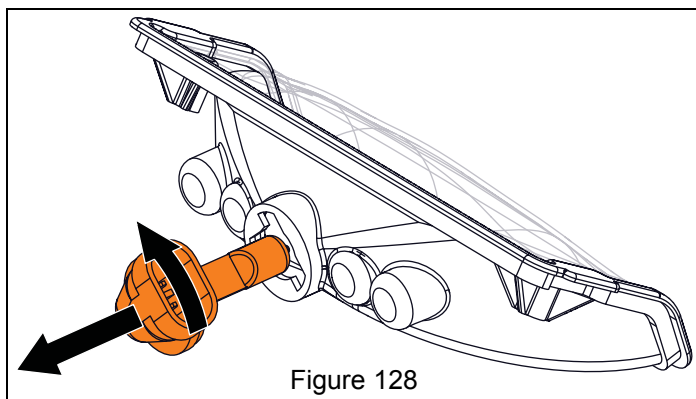

Figure 128
3. Remove hardware securing headlight to dash panel. See Figure 128.